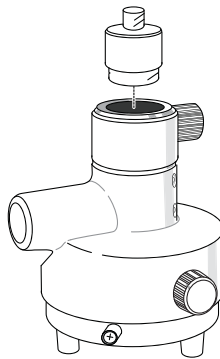

Figure 1-12. Precision Tribrach Adapter and Horizontal Spacer
**The precision tribrach adapter** (Figure 1-12) is used to precisely center, align, and level the tripod over a point. The horizontal spacer (p/n 60419) inserts into the precision tribrach and allows the receiver to sit securely on the precision tribrach.